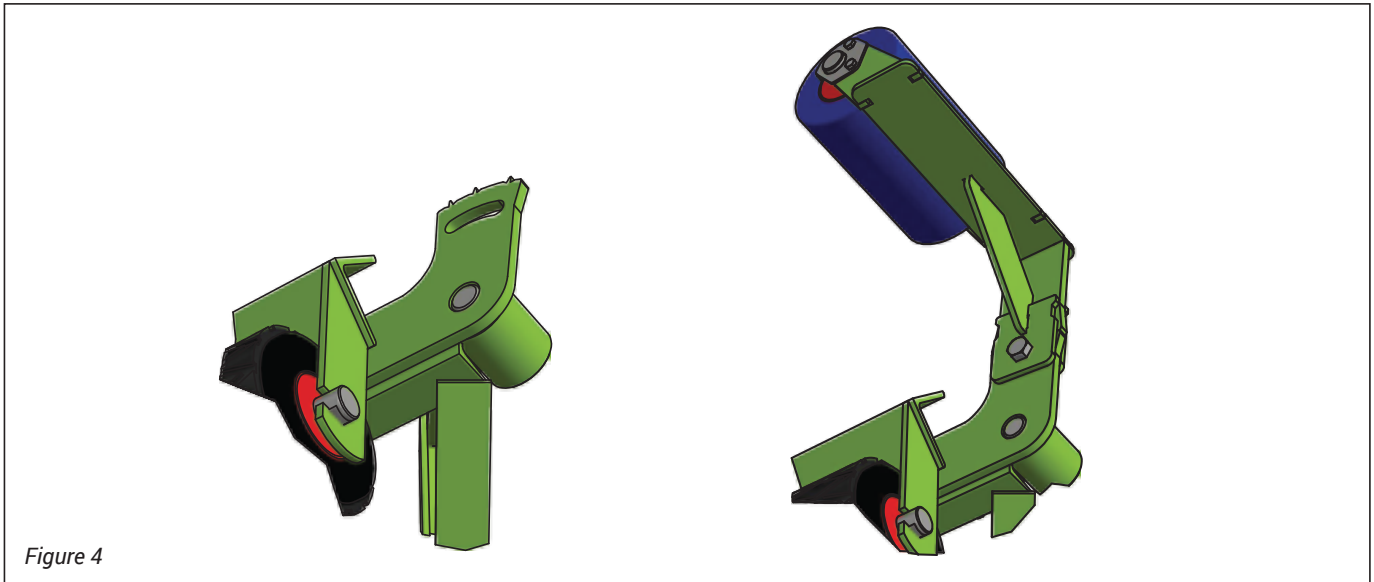

Figure 4
15. Mount the sensor arms to the Benetech Troughing ITracker frame (*Figure 4*)– Area indicated at No.4 in *Figure 2*.